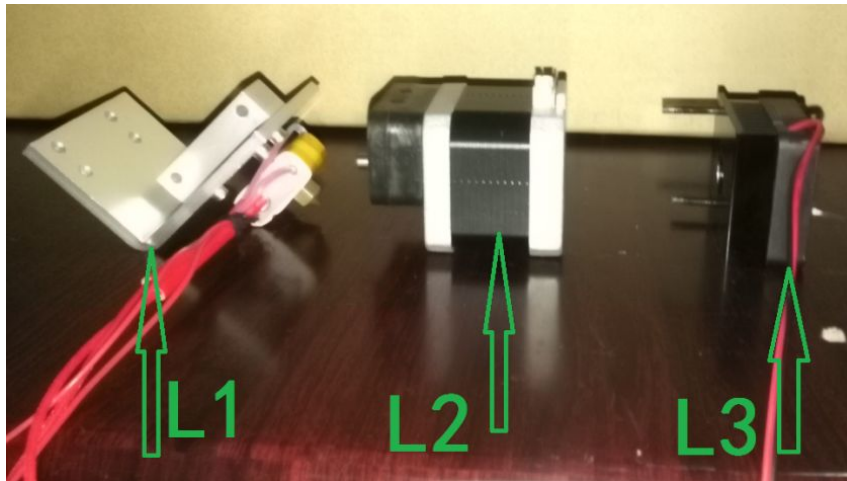
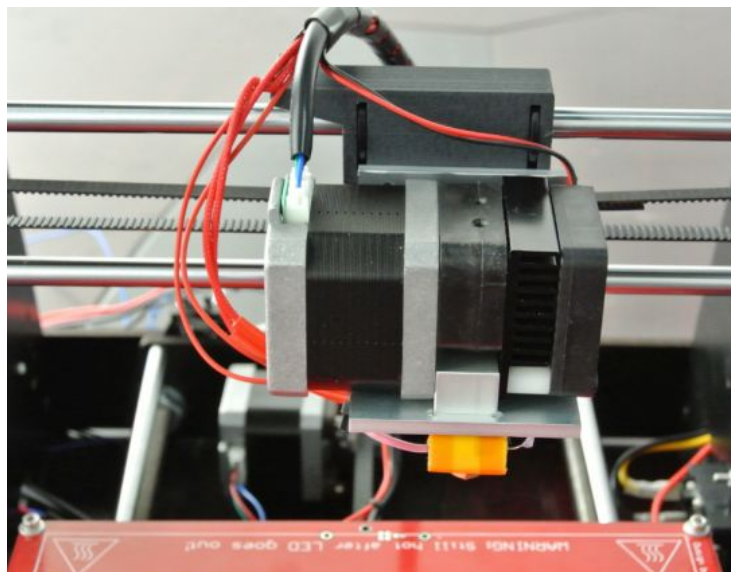

Figure 24
Figure 25
First unscrew cooling fan of nozzle, dismantle the L1, L2 and L3 parts of nozzle as shown in figure 24. **Install L1 part to the movable block in the middle of P assembly** with ⑥, ④ and ③. Please remember that first get screw 6 through the movable block in the middle of P assembly, then install the nozzle in the reverse order that these parts are dismantled, as instructed in figure 25. Connect motor of nozzle to port 10 of motherboard with long cable ⑲. Connect cooling fan cable to port 14 of motherboard 14. Connect power cable of nozzle to port 3 of motherboard. Connect temperature sensor of nozzle to the port 21 of motherboard.